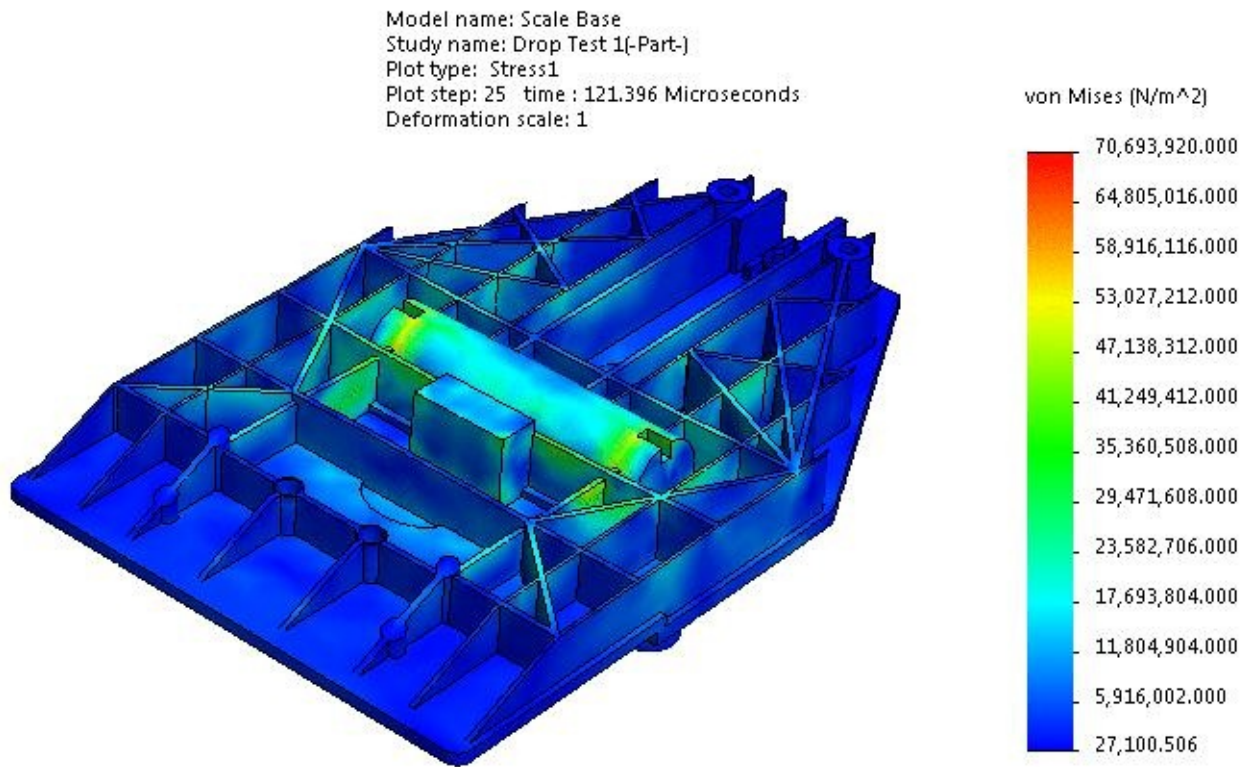

Figure-12. Results
- After the analysis is solved, the results will be displayed; refer to Figure-12.